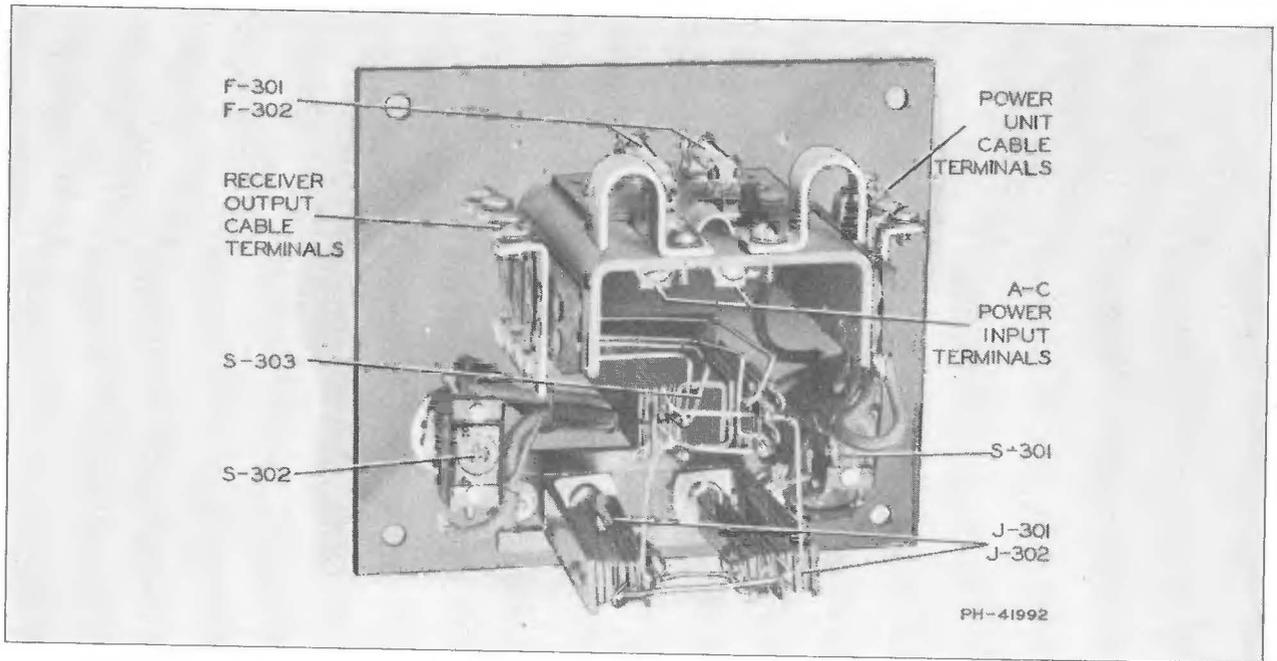

Figure 5—Control Unit CRV-23073 (Rear View of Panel)
8.4-1 The control unit contains output jacks, mixer switch, and power switches mounted on the panel (See Figure 5.) Fuses and terminal boards are mounted on a bracket secured to the panel. The case may be permanently mounted to any flat surface (see Figure 14).
- 9.6 Control Unit CRV-23073 (see Figure 5) is shown schematically in Figure 18. The use of this control unit makes possible the guarding of two channels simultaneously. The output of each receiver feeds into the control unit where a 3-position switch is provided which makes available, in the two headphone jacks, signals from either or both of the receivers. Two power switches also are provided on the control unit panel for controlling the power to each receiver independently. The a-c power supply feeds into the control unit and each side of the line is fused. The two supply cables connect to suitable terminals on the power units which terminals are arranged to omit from the circuit the switch and the fuses in the power unit.